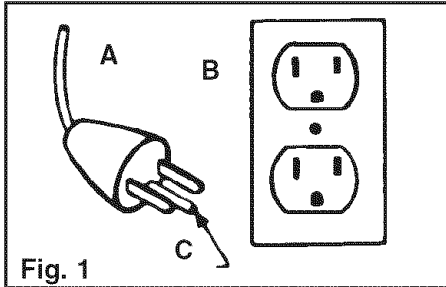

Fig. 1
Improper connection of the equipment-grounding conductor can result in the risk of electric shock. Check with a qualified electrician or service person if you are in doubt as to whether the outlet is properly grounded. Do not modify the plug provided with the appliance - if it will not fit the outlet, have a proper outlet installed by a qualified electrician. This appliance is for use on a nominal 120 volt circuit and has a grounding plug that looks like the plug (A) illustrated in sketch (Fig. 1).
A temporary adapter (D) may be used to connect this plug to a 2-pole receptacle (E) if a properly grounded outlet is not available (Fig. 2). The temporary adapter should be used only until a properly grounded outlet (B) can be installed by a qualified electrician (Fig. 1). The green colored rigid ear, lug, or the like (F) extending from the adapter must be connected to a permanent ground (G) such as a properly grounded outlet box cover (Fig. 2). Whenever the adapter is used, it must be held in place by a metal screw. **NOTE:** In Canada, the use of a temporary adapter is not permitted by the Canadian Electrical Code.